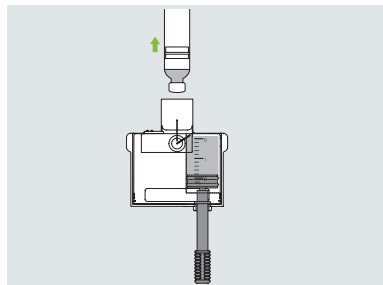

Figure 25
6. Remove the insulin vial or cartridge from the fill adapter (Figure 25).